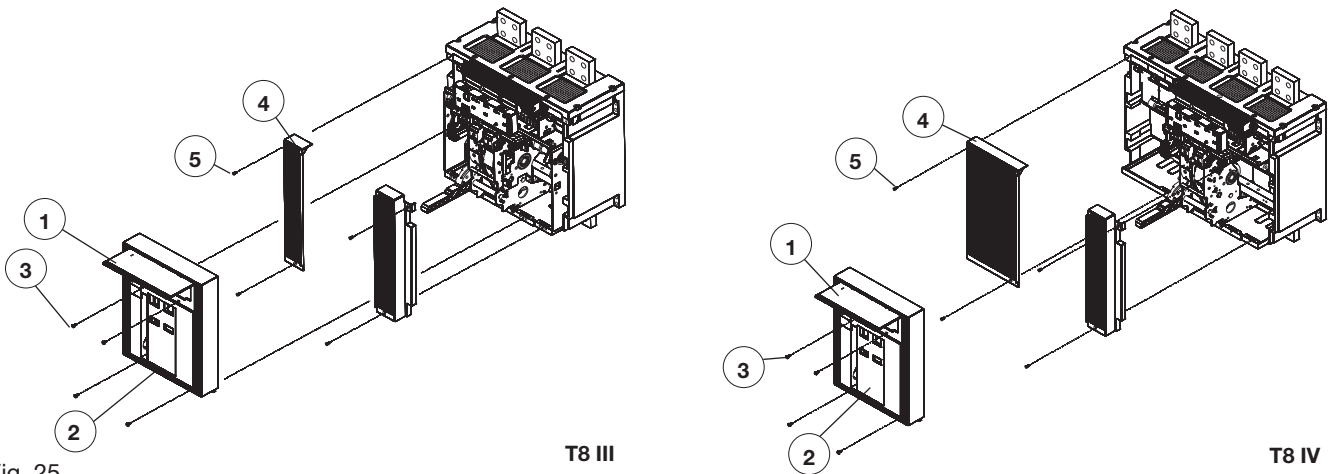

Fig. 25
- Remove the flange (1) of the release as shown in figure 25.
- Remove the front escutcheon plate (2) by removing the four screws (3).
- Remove both the side guards (4) by removing the front screws (5).